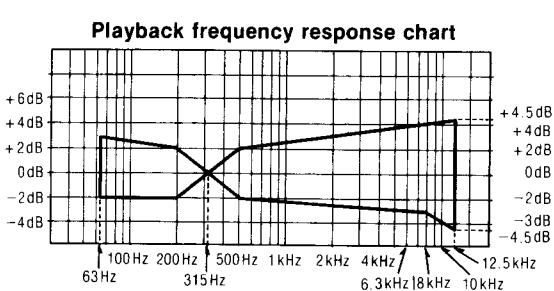

Fig. 8
<p>Playback frequency response</p> <p>Condition: • Playback mode</p> <p>Equipment: • EVM (Electronic Voltmeter) • Oscilloscope • Test tape...QZZCFM</p>	<p>1. Test equipment connection is shown in fig. 2.</p> <p>2. Playback the frequency response portion of test tape (QZZCFM).</p> <p>3. Measure output level at 315Hz, 12.5kHz, 8kHz, 4kHz, 1kHz, 250Hz, 125Hz and 63Hz, and compare each output level with the standard frequency 315Hz, at LINE OUT.</p> <p>4. Make measurements for both channels.</p> <p>5. Make sure that the measured values are within the range specified in the frequency response chart (Shown in fig. 8).</p>
<p style="text-align: right;">Fig. 8</p>
5. Make sure that the measured values are within the range specified in the frequency response chart (Shown in fig. 8).